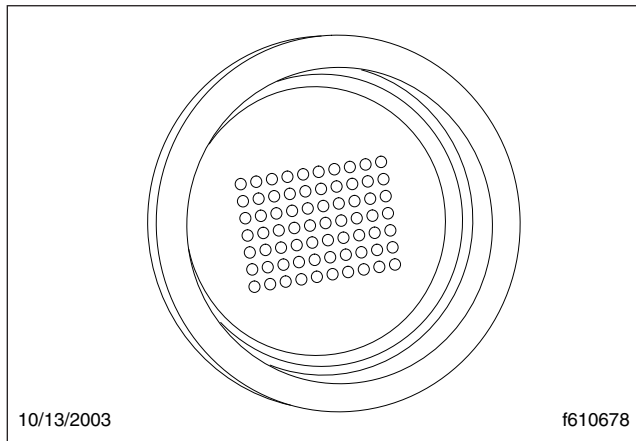

Fig. 14.3, Power-Up Dot Display
3. After the ignition is turned on, the current gear indicator shows the dot display, arranged in a square pattern. All dots in the pattern should light up, without gaps or spaces. See Fig. 14.3.